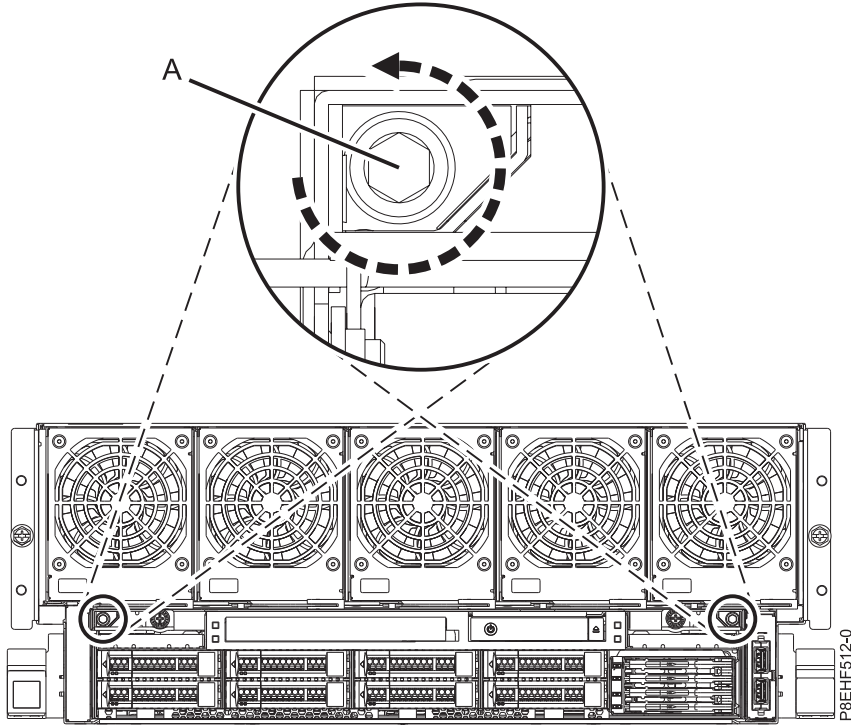

Figure 5. Loosening the shipping screws
2. Loosen, but do not remove the recessed shipping screws (A) in the RAID assembly by using a 4 mm Allen wrench, as shown in Figure 5 on page 9.